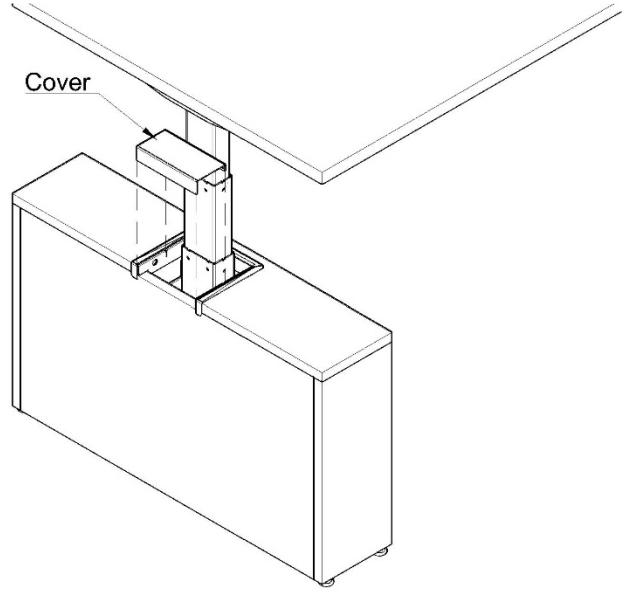

Figure 13
- 15. Place the Cover of the Grommet Flange in its position as shown in Figure 13.